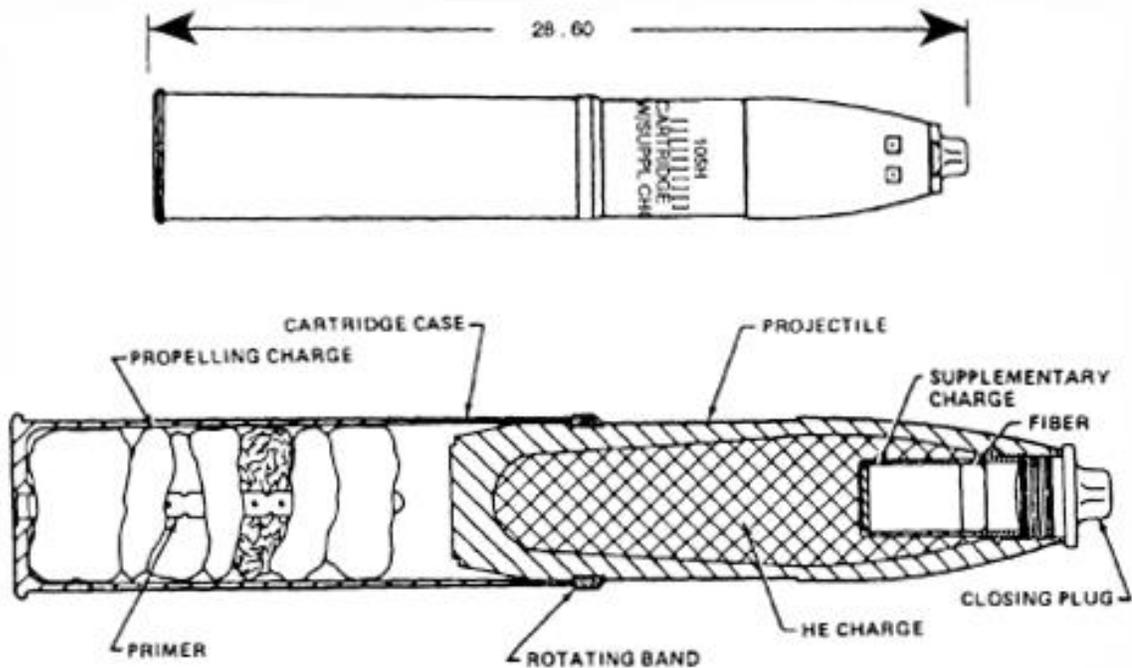

Figure 2-4. 105-mm HE round, M1
a. **High Explosive M1 round.** The projectile of the M1 cartridge (Figure 2-4) contains high explosive and is used for fragmentation and blast in support of ground troops and armored units. The M1 consists of a hollow steel forging with a boattail base, a streamlined ogive, and gilding metal rotating band. The HE filler within the projectile may be either cast TNT or Composition B. A fuze cavity is either drilled or formed in the filler at the nose end of the projectile. This cavity may be either shallow or deep. The cartridge case contains a percussion primer assembly and seven individually bagged and numbered propelling charge increments.